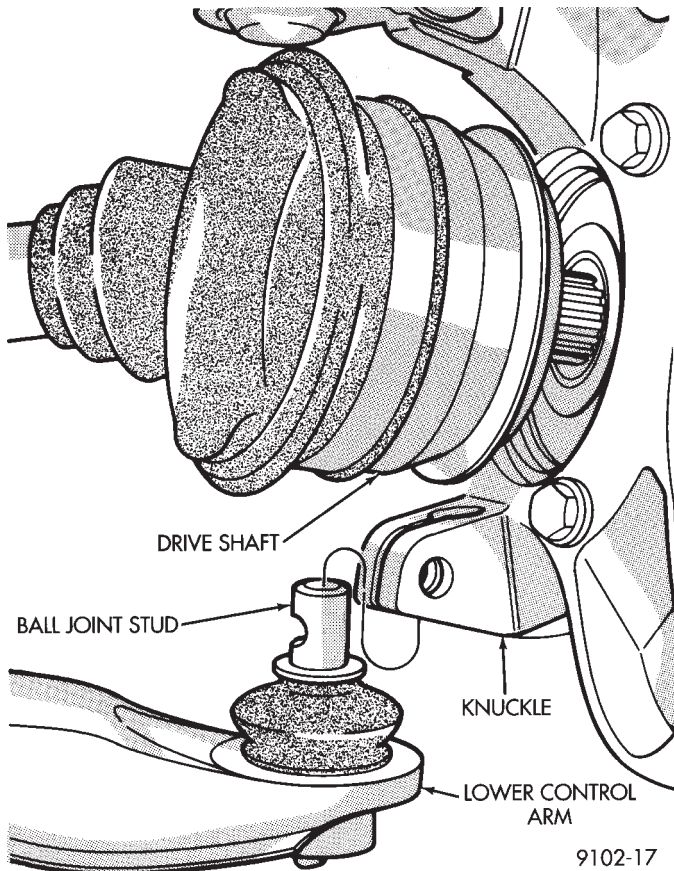

Fig. 12 Install Knuckle Assembly on Ball Joint Stud
(3) Install steering knuckle assembly on ball joint stud (Fig. 12).
CAUTION: Steering knuckle clamp bolt shown in Figs. 12 and 13 is prevailing torque type, original or equivalent bolt must be installed during assembly.